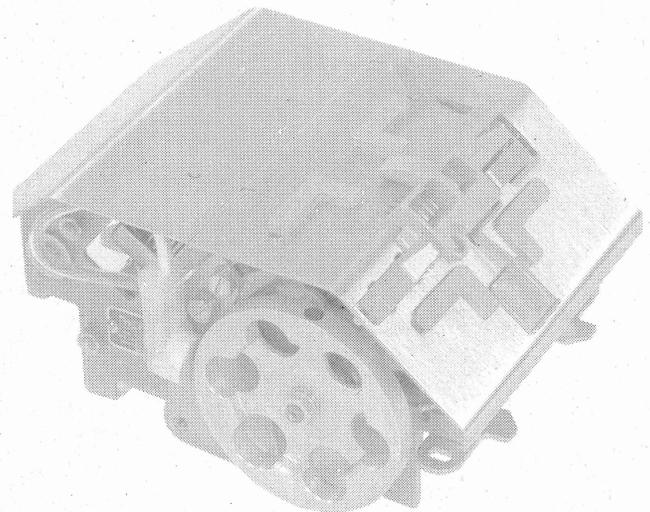

Figure 1 - CX Tape Reader (Typical)
1.01 This section provides description and principles of operation information for CX tape readers (Figure 1). It is reissued to change the title, add CX808 reader information, and to incorporate the latest engineering changes. There is no TCN information to be included at this time. Due to a general revision, marginal arrows are not used.
1.02 The CX tape reader (Figure 1) is an electromechanical device which senses intelligence recorded in fully perforated or chadless tape. Its output is electrical (from 5- to 8-level, depending on the reader). The reader senses tape at speeds up to 1071.42 words per minute (wpm).
1.09 References to left or right, up or down, top or bottom, etc, refer to the reader viewed with the flywheel facing the front (Figures 1, 2, and 3).